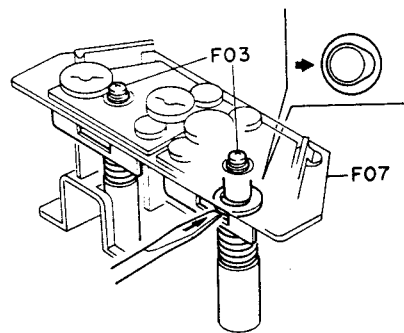

Fig. 2.10.2
- (b) Mount F07 (Head Mount Base Ass'y) and fasten F03. Then push the Plate Washer with a blade of screwdriver to set the Plate Washer free. Refer to Fig. 2.10.2.